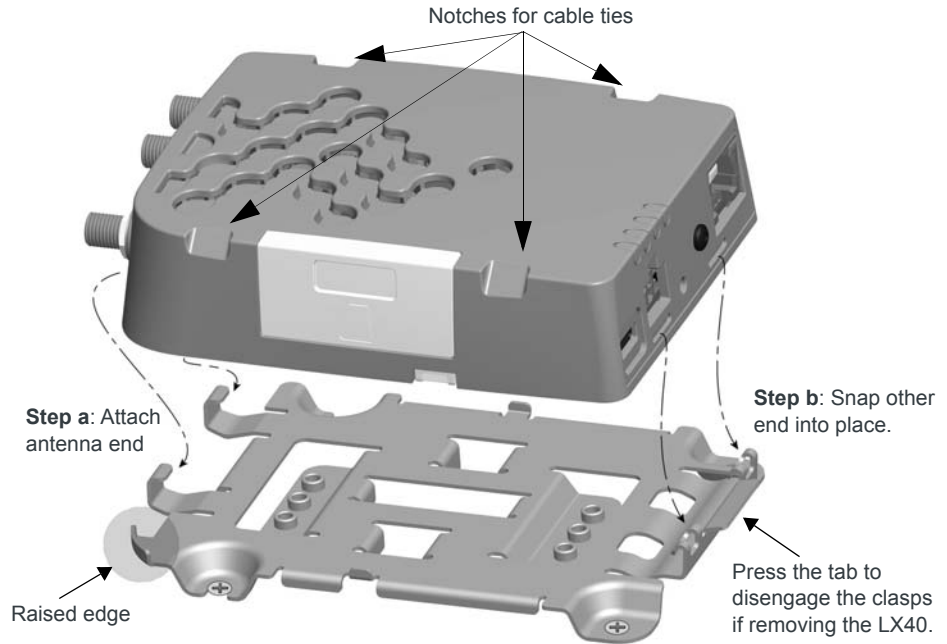

Figure 2-5: Attaching the LX40 to the bracket
2. Snap the LX40 onto the bracket (see Figure 2-5 on page 14).
2. Wrap the ties around the LX40, using the notches in the LX40 casing (see Figure 2-5) to align the ties.